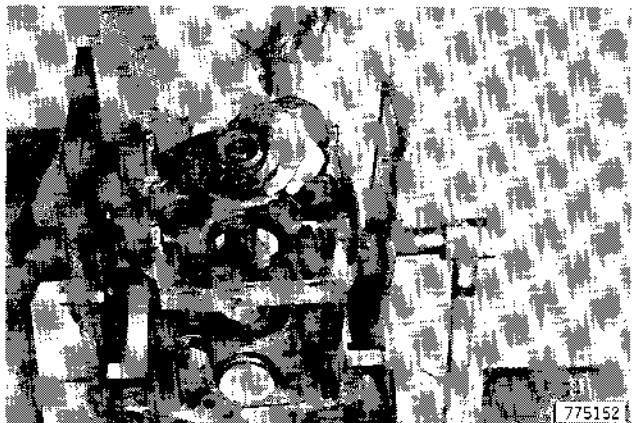

Figure 159
4. Install tapered roller bearing, Figure 159.